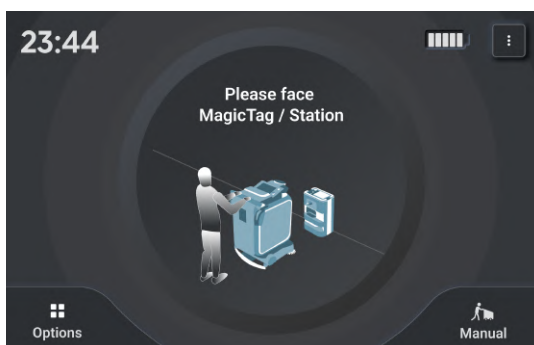

FIGURE 6-11
1. On the Home Page (**Fig. 6-11**), push the machine near the MagicTag (~30cm), so that the machine is facing it.